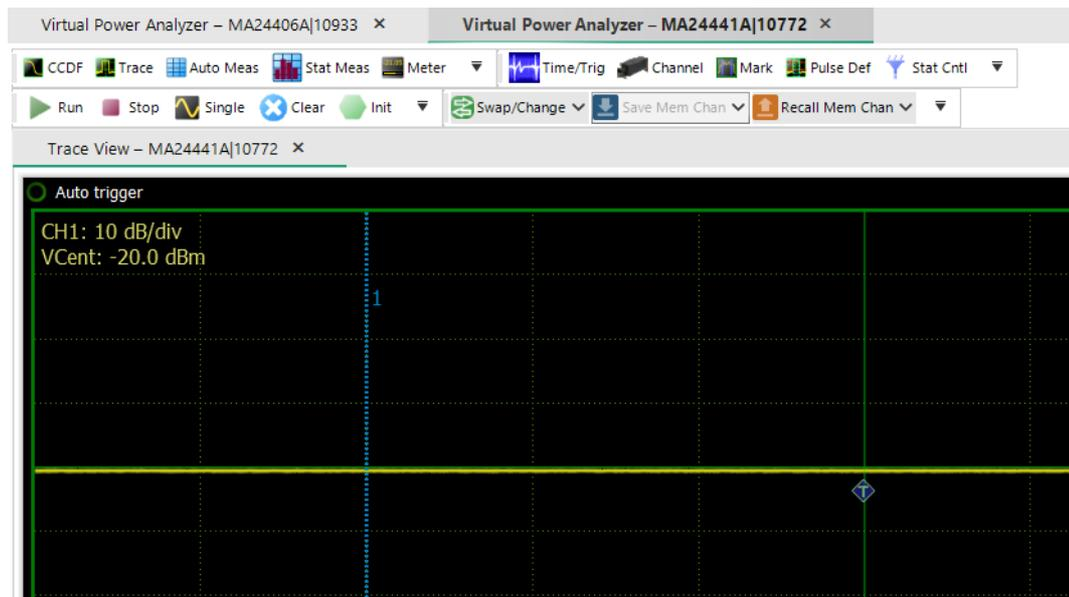

Figure 4-39. Multichannel Sensors Virtual Power Analyzer (VPA) Tabs.
2. Click another sensor in the Available Resources window and then click **New Virtual Power Analyzer** button again. A second VPA tab is opened as shown in Figure 4-39. This mode of multichannel operation treats each sensor individually.